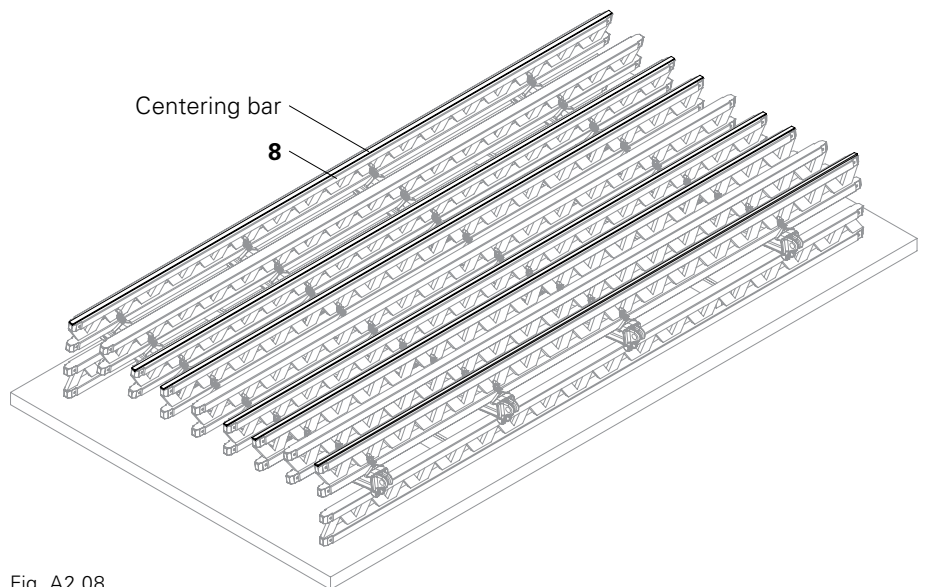

Fig. A2.08
1. Arrange centering bars on the Lattice Girders GT 24 (8).
2. Fix centering bars to the Lattice Girders GT 24 (8) using nails. (Fig. A2.08)